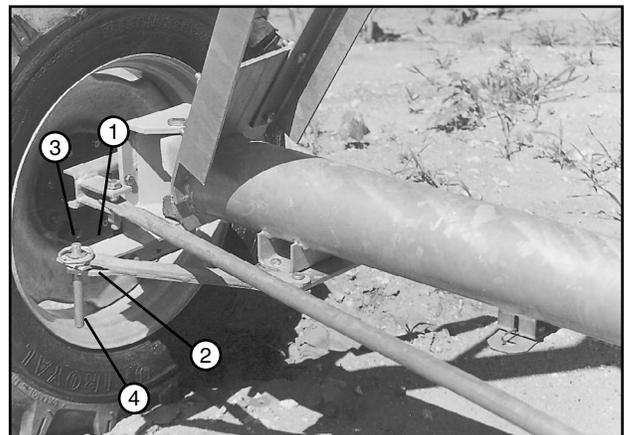

Figure 41-3 1. Steering Arm
20. Position each steering arm in tow link bar yoke, align holes, then attach each steering arm to tow link bar with torque pin and secure with lynch pin. It may be necessary to move the tongue for proper alignment of the holes. See figure 41-3.